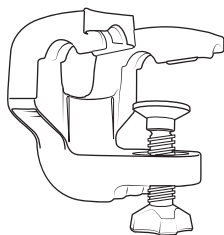

Fig. 2. Fixation stand
• Install the device on even surface (for example, on a table) on its 5 suction caps. If necessary fasten it with the fixation stand (see Fig. 2).